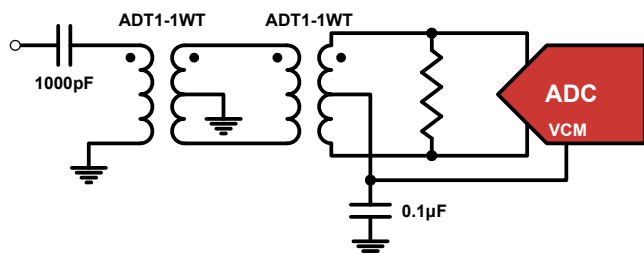

FIGURE 45. TRANSFORMER INPUT FOR GENERAL PURPOSE APPLICATIONS
Best performance is obtained when the analog inputs are driven differentially. The common mode output voltage, VCM, should be used to properly bias the inputs as shown in Figures 45 through 47. An RF transformer will give the best noise and distortion performance for wideband and/or high intermediate frequency (IF) inputs. Two different transformer input schemes are shown in Figures 45 and 46.